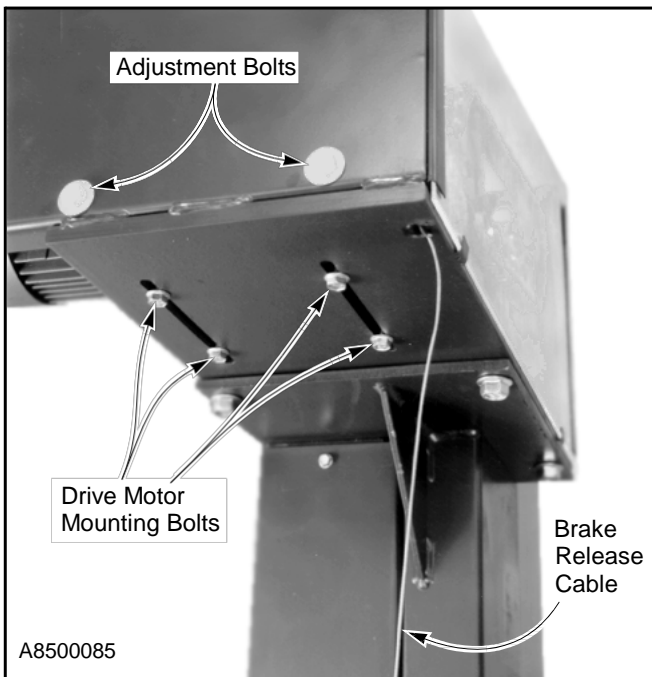

Figure 43
4. While holding the brake in the released position, turn the adjustment bolts to increase or decrease the chain tension. (See Figure 43)